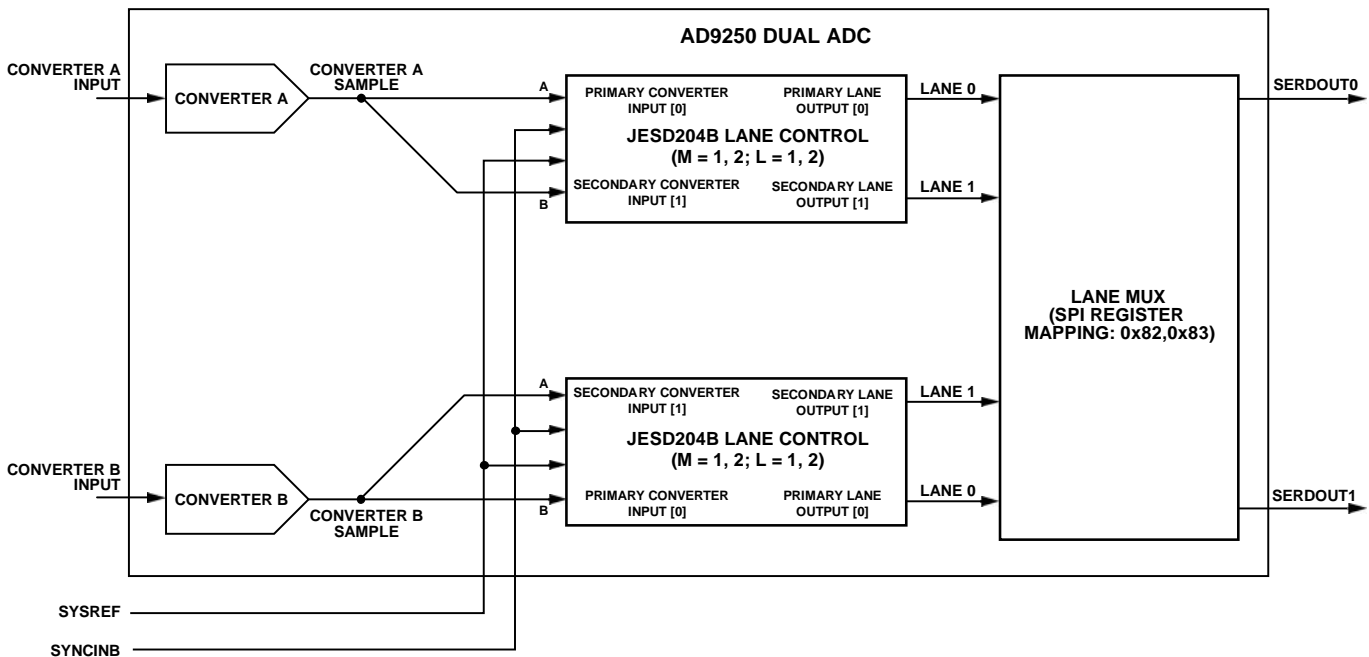

Figure 50. AD9250 Transmit Link Simplified Block Diagram
- Option to remap converter and lane assignments, Register 0x82 and Register 0x83. See Figure 50 for simplified block diagram.